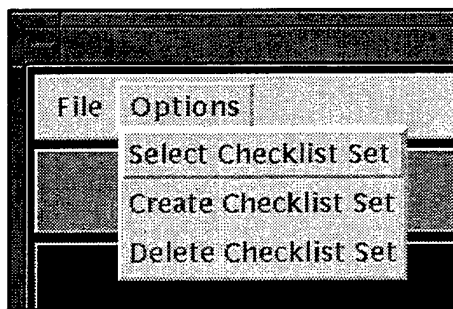

Fig. 38 — Checklist editor: options menu
- Click on *Select Checklist Set* from the *Options* menu (Fig. 38) in the **Checklist Editor Window**.
The checklist editor provides various maintenance functions, including deleting and saving checklists. To delete a checklist set, click on *Delete Checklist Set* under the *Options* menu (Fig. 38)